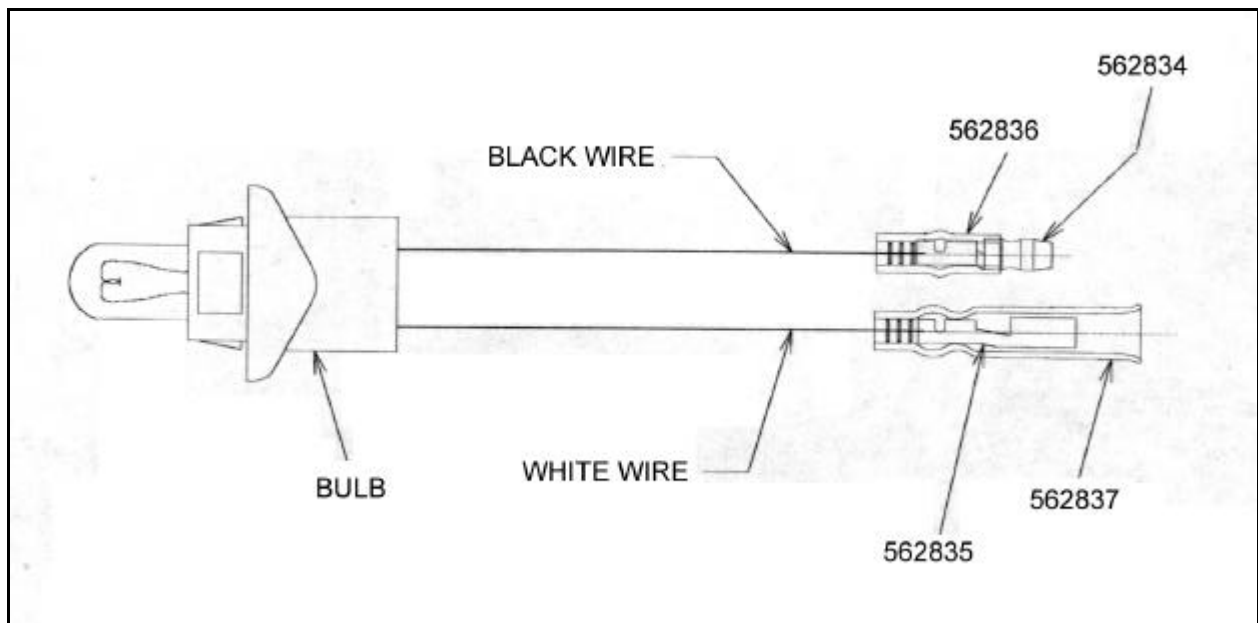

FIGURE 1 : CLEARANCE AND MARKER LIGHTS
4. Insert the shields on the wires (refer to figure 1).
5. Strip the wire and install the terminals on the wires (refer to figure 1). Use an appropriate crimping tool (Prévost #682357 or AMP #6285847).